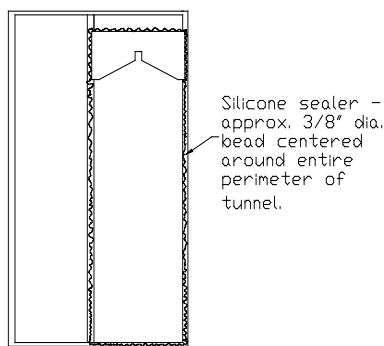

Figure 4
2. Sealer should be applied around the finishing chamber opening between the mating surfaces as show in Figure 4.